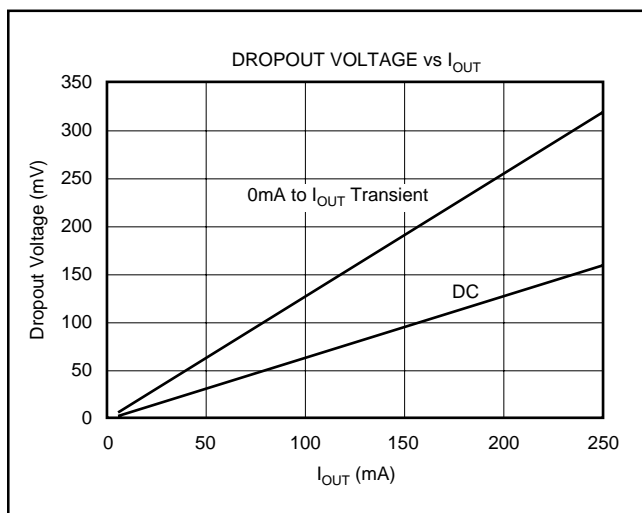

FIGURE 6. Transient and DC Dropout.
The REG102 uses an N-channel DMOS as the pass element. When $(V_{IN} - V_{OUT})$ is less than the drop-out voltage (V_{DROP}), the DMOS pass device behaves like a resistor; therefore, for low values of $(V_{IN} - V_{OUT})$, the regulator input-to-output resistance is the R_{dsON} of the DMOS pass element (typically $600m\Omega$). For static (DC) loads, the REG102 typically maintains regulation down to a $(V_{IN} - V_{OUT})$ voltage drop of 150mV at full rated output current. In Figure 6, the bottom line (DC dropout) shows the minimum V_{IN} to V_{OUT} voltage drop required to prevent dropout under DC load conditions.
For large step changes in load current, the REG102 requires a larger voltage drop across it to avoid degraded transient response. The boundary of this transient drop-out region is shown as the top line in Figure 6 and values of V_{IN} to V_{OUT} voltage drop above this line insure normal transient response.